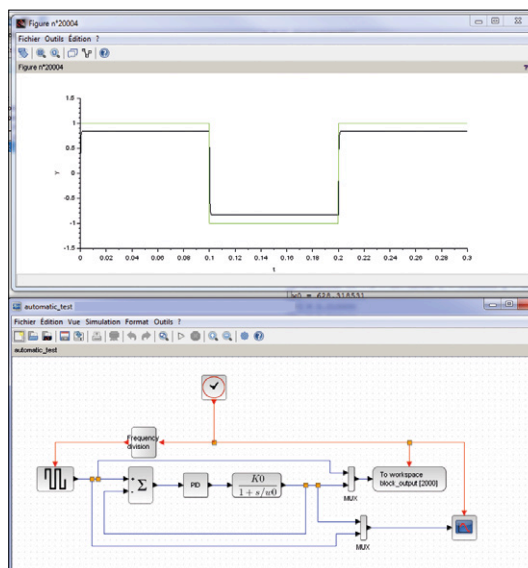

Figure 4. Detail of the Scilab environment.
**A** Strange as it may seem, programs used to be written without the aid of a computer. Instructions (in assembly language) and operands were represented by hole patterns on punched cards. The arrival of high-level languages, much more easily understood by humans, was made possible by compilers, which are actually Man/Machine interfaces. One modern instruction (an operation on an SQL database for example) replaces an unimaginable amount of cards! Nearer our era, we can look at Matlab/Simulink (or the free equivalent Scilab/Xcos) which cleverly mix programming, matrix calculations and a graphical interface (**Figure 4**) to simulate and resolve problems in mathematics or automation.